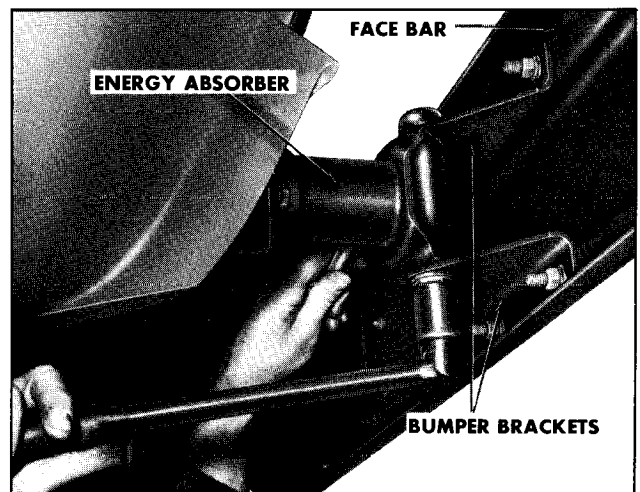

Figure 5—Removing Bumper Bracket Thru-Bolts
1. Remove bumper by removing both bumper bracket thru bolts as shown in Figure 5.
1. Remove face bars by removing both bumper bracket thru- bolts (See figure 5).